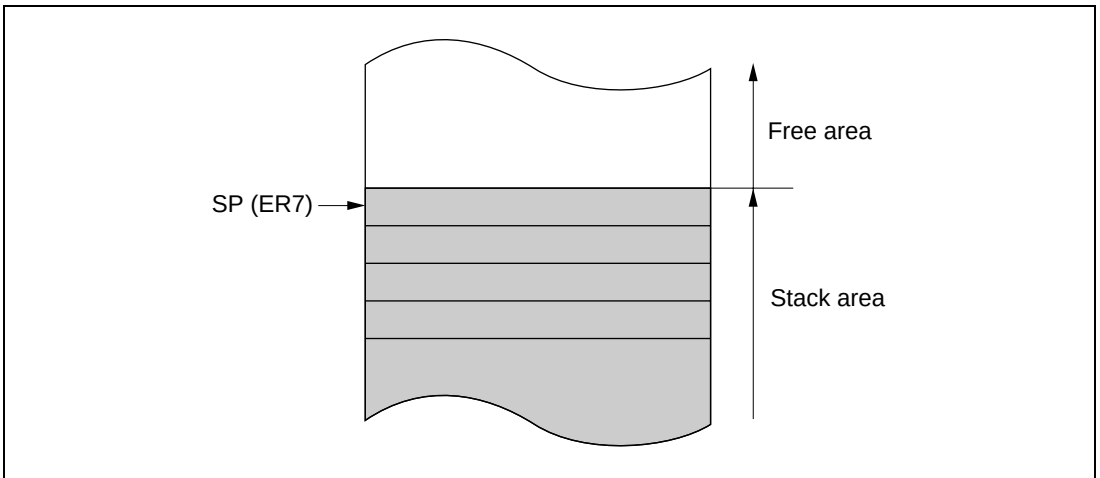

**Figure 2.9 Stack**
General register ER7 has the function of stack pointer (SP) in addition to its general-register function, and is used implicitly in exception handling and subroutine calls. Figure 2.9 shows the stack.